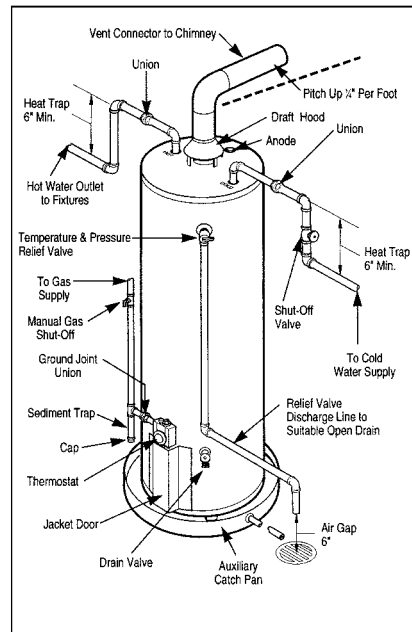

Figure 2 — Typical Installation
- 2. WATER SUPPLY CONNECTIONS**—Refer to Fig. 2 for suggested typical installation. The installation of unions or flexible copper connectors is recommended on the HOT and COLD water lines, so that the water heater may be easily disconnected for servicing if necessary. The HOT and COLD water connections are clearly marked.
IMPORTANT!! This water heater is supplied with one (1) "Cold" (blue tip), and one (1) Hot (red tip) heat trap nipples. They **MUST** be installed directly into the water heater as shown in Fig. 2. Do not apply heat to the hot or cold heat trap nipple. If sweat connections are used, sweat tubing to